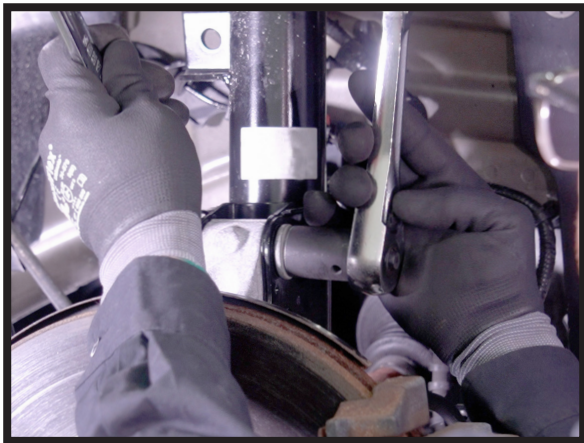

FIGURE 11
7. REMOVE THE TWO (2) BOTTOM SHOCK MOUNT BOLTS. (FIGURES 11, 12, 13)